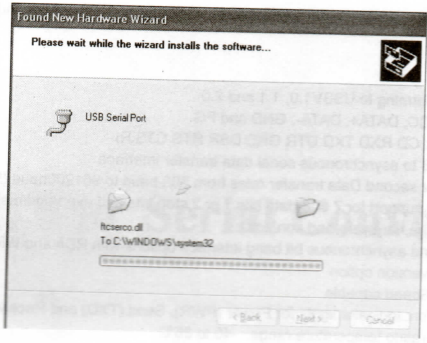

Figure 5
5. The screen shown in Figure 5 will be displayed as Windows XP copies the required driver files